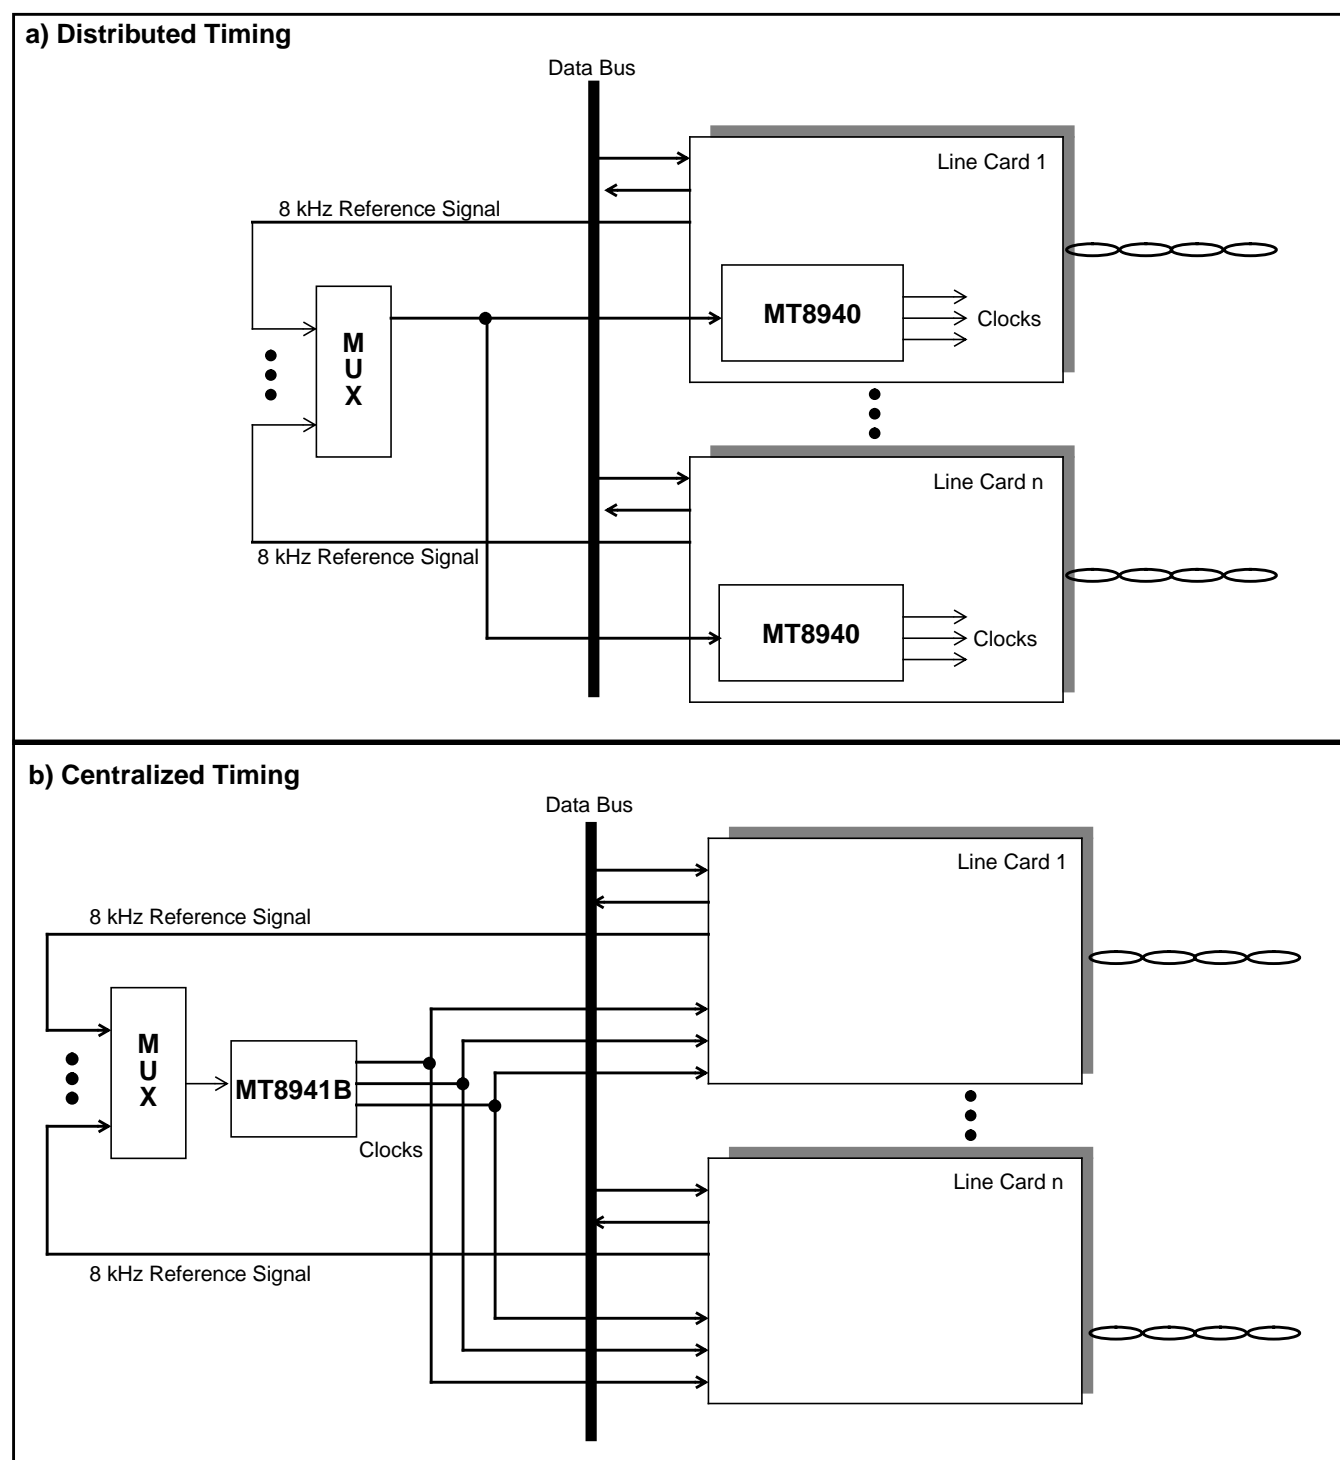

Figure 8 - Application Differences between the MT8940 and MT8941B
2. The MT8941B includes a no-correction window to filter out low frequency jitter and wander as illustrated in Figure 4. Consequently, there is no constant phase relationship between reference signal \overline{FOI} of DPLL # 1 or C8Kb of DPLL #2 and the output clocks of DPLL #1 or DPLL #2. Figure 4 shows the new phase relationship between C8Kb and the DPLL #2 output clocks. Figure 8 illustrates an application where the MT8941B cannot replace the MT8940 and suggests an alternative solution.